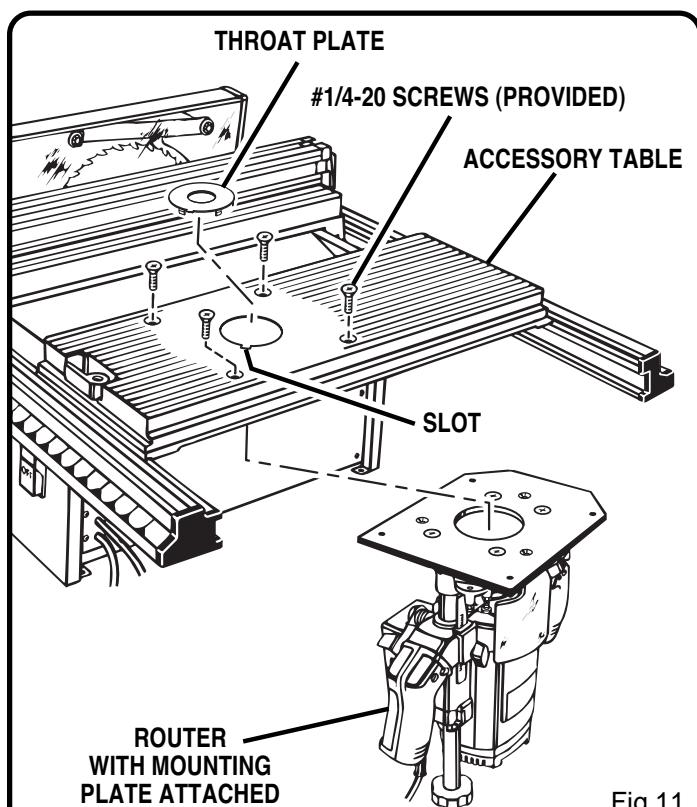

Fig.11
- Place the router with the mounting plate under the accessory table. See *Figure 11*.